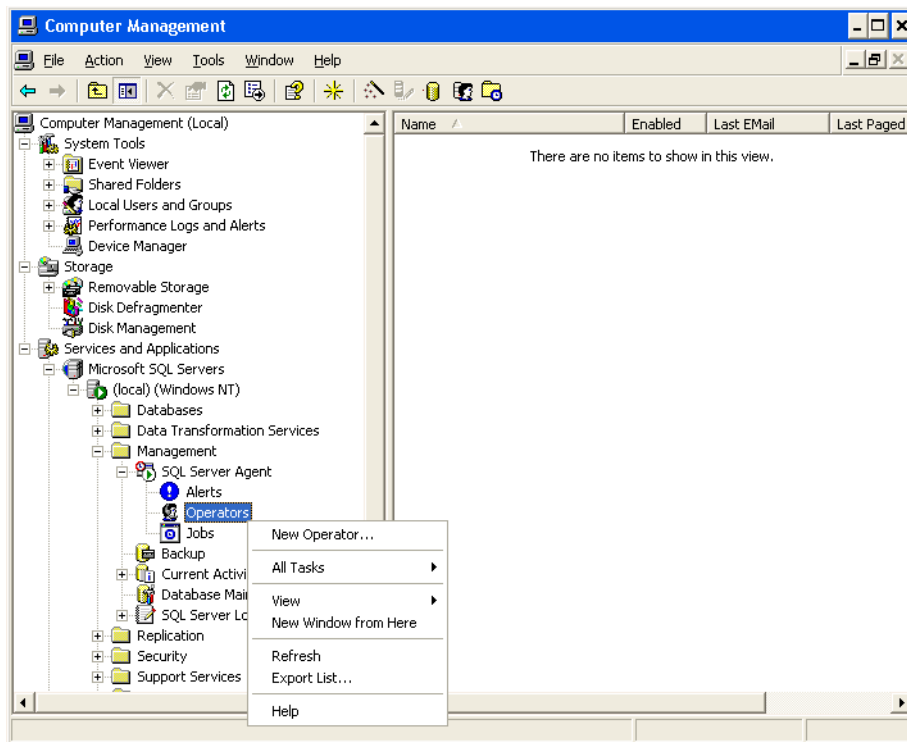

Figure 7.4 Creating an Operator in SQL Server
6. Right-click **Operators** and select **New Operator** (Figure 7.4).